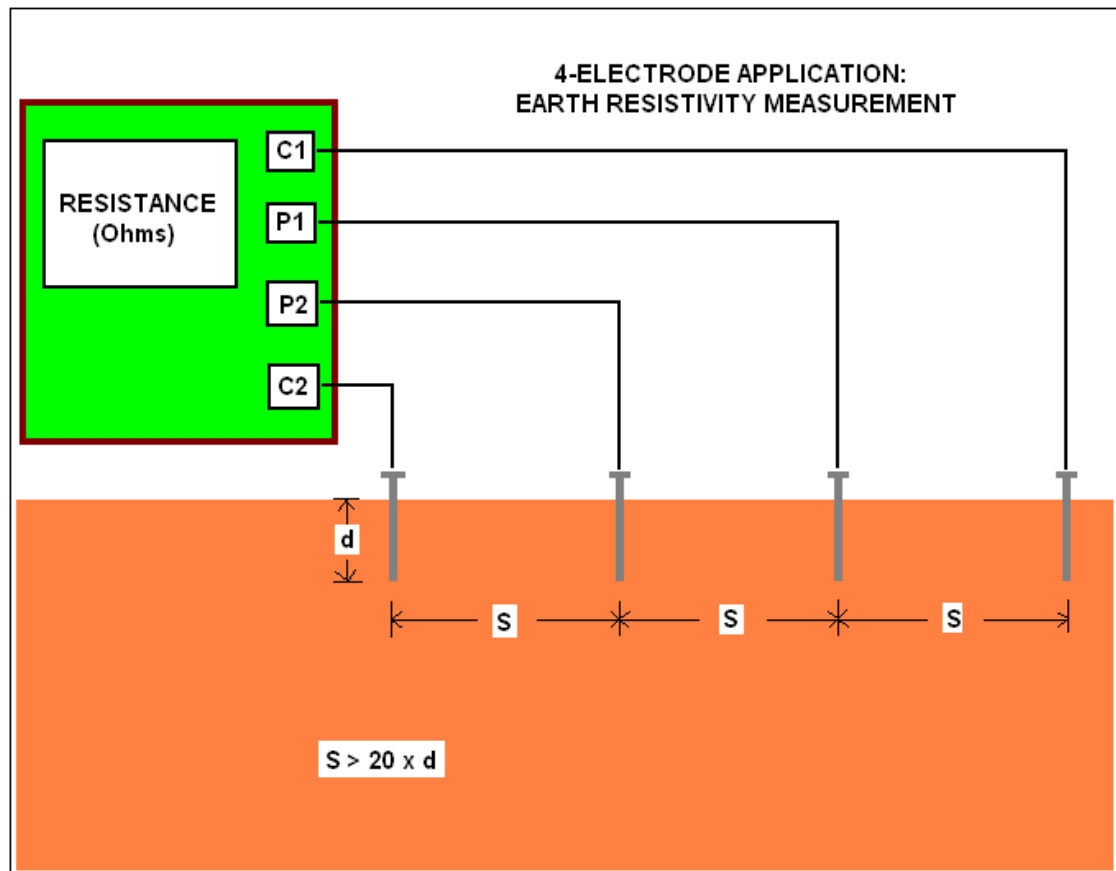

Figure 1
distance and are evenly spaced in a straight line. A schematic of this arrangement is illustrated in Figure 1 below.
The MILLER-400D can be used in conjunction with M. C. Miller's 4-lead (color-coded) test reel (catalog # 44700) and four heavy-duty (stainless steel) electrodes (soil pins) – catalog # 44720. The test leads are connected to the MILLER-400D as shown in Figure 1. With this arrangement, the MILLER-400D displays the earth's average resistance to a depth equal to the electrode spacing (S), based on the magnitude of the current flowing between terminals C1 and C2 and the voltage dropped between terminals P1 and P2. **Note:** For load resistances  $> 1\text{M}\Omega$ , in addition to internal meter errors, errors associated with test lead proximity can also be significant (please see Appendix 3 for details).